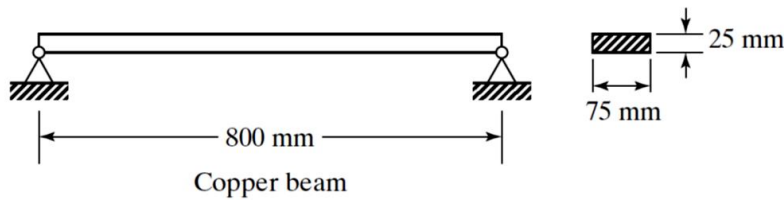

FIGURE P11.4
11.4. Determine all natural frequencies of the simply supported beam shown in Fig. P11.4. Compare the results obtained using the following: